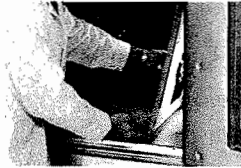

Fig. 12
8. Install *left and right side panels* placing the cut-out notches over light bank (right panel) thermostat bulb guard (right panel) and rack guide support brackets (right and left panels). Fig. 12.